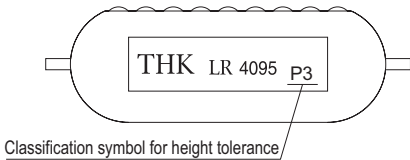

Fig.4
When multiple LM Roller units are arranged on the same plane, the mounting heights of the LM Roller units must be identical in order to achieve uniform load distribution. The dimensional tolerance of the LM Roller in height (A) is defined as indicated in Table4. When ordering LM Roller units to be used on the same plane, specify their tolerances with the same classification symbol. Each classification symbol is marked on the package box and on the side face of the LM Roller's raceway base as indicated in Fig.4. (except for normal grade)